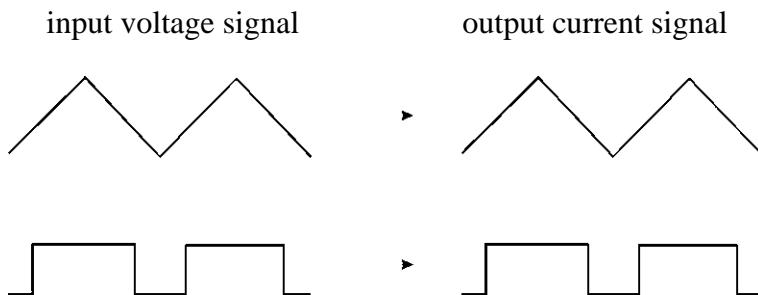

Figure 4: input-output relation using CURRENT INPUT
Analog input BNC connector for applying signals from an external stimulus source. The voltage signal that is connected here is transformed to a proportional current at the electrode with a sensitivity of 0.1 nA/V, i.e. an input voltage of 5 V is transformed to an output current of 0.5 nA. The signal form remains unchanged. Two examples are given in Figure 4. The amplitude of the output current signal (current stimulus) is determined by the amplitude of the input voltage signal.
(23) CURRENT INPUT 1 nA/V connector
Analog input BNC connector for applying signals from an external stimulus source. The voltage signal that is connected here is transformed to a proportional current at the electrode with a sensitivity of 1 nA/V, i.e. an input voltage of 5 V is transformed to an output current of 5 nA. The signal form remains unchanged (see also (20) and Figure 4).